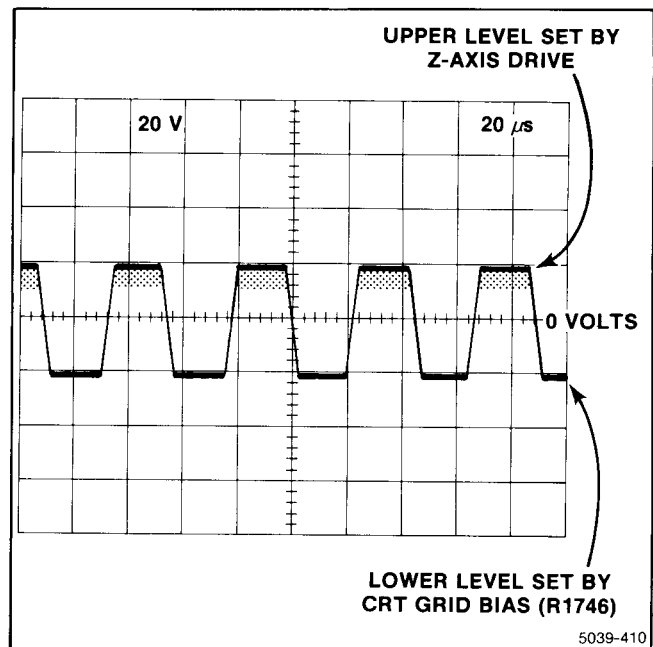

Figure 4-8. Typical waveform at junction of R1811 and CR1747 on the A22 High Voltage Board.
2. Check that the waveform at the junction of A22R1811 and A22CR1747 is similar to that shown in Figure 4-8.
If the waveform is not like that of Figure 4-8, check the Z-Axis Amplifier by advancing the INTENSITY setting; the positive level of the square wave should also rise until the Intensity Limiter limits the Z-Axis drive. Then check the Grid Bias circuit by changing the setting of CRT Grid Bias adjustment R1746; the negative level of the square wave should also change.